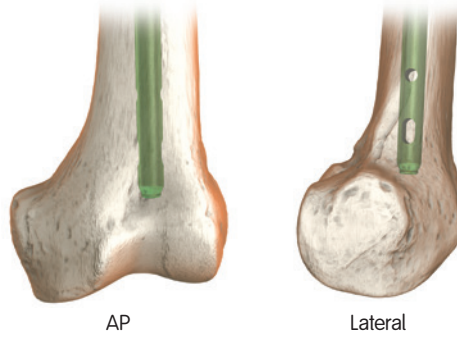

Figure 28
1. Verify center-center placement of the nail in the distal femoral metaphysis in both the AP and lateral planes (Figure 28).